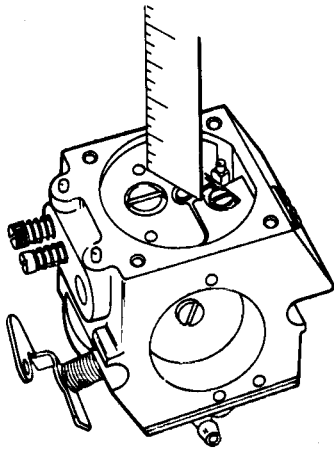

Figure 23
4. Install the metering lever components and adjust the metering lever to be flush with the surface of the circuit plate, Fig. 23.